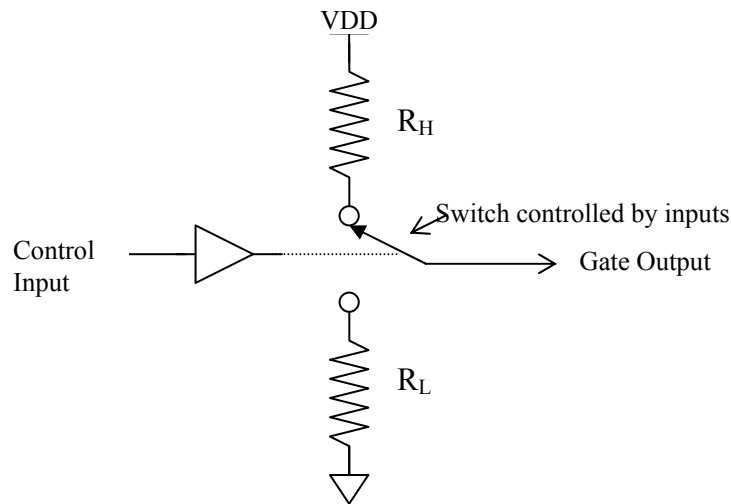

Figure 2-i: Simplified switch model for the output of a gate.
- 5) **Input DC Currents and the Effect of Unconnected Inputs:** Frequently, systems have unused gate inputs which need to be either '0' or '1' at all times. Making no connection to a pin may seem an economical way to get such a condition, but that can cause unanticipated problems. The purpose of these measurements is to determine the logic level of an unconnected input, if indeed it is determined at all, for a 74LS14 inverter and for a 74LVC04A (CMOS) inverter. The actual input current of an unconnected pin is identically zero. Begin by measuring the input current at full LOW and HIGH levels to see whether an open pin might be at either level. To do this for the 74LS14, connect a 510-ohm resistor from the input to GND and then reconnect it from input to VCC. Measure the voltage across the resistor with the multimeter. Be sure to observe the sign of the voltage (the direction of the current) as well as its value. (DO NOT MEASURE WITH A CURRENT RANGE OF THE MULTIMETER. USE A SERIES RESISTOR AS SHOWN IN FIG. 2-iii AND MEASURE THE VOLTAGE ACROSS IT. Invariably you will end up damaging the meter if you use its current range.) One can also measure the logic level associated with an open connection by measuring the *output* of a gate with no input connected and inferring the input state. For the 74LS14, also measure the voltage at its input with nothing but the voltmeter connected to that input as a rough measure of the unconnected voltage. It is sufficient for the 74LS14 to do these measurements only once.
- 7) **Power and Uncommitted Inputs with CMOS Gates:** Connect your 25K potentiometer so it can set the input voltage to the single isolated gate of the 74LVC04A hex inverter using the circuit in Figure 2-iv. Ground the input to the chain of other gates in that package. (See comments above and in Lab 6 on the wiring of this device.) Use the 3.3 volt supply for this measurement. This setup allows you to adjust the input voltage to any value from 0 to VDD and to measure the power dissipation at the same time. Use a sense resistor of 100 ohms. Rotate the pot slowly from one end to the other and record the maximum current into the gate. Make a crude plot of current, I_{DD} , versus input voltage. Estimate the input voltages that make I_{DD} approximately half of the peak value.
- 8) **Fanout Limitations:** Figure 2-i shows a simplified model of the output of an inverter based on an electrically controlled switch and two resistors. The resistors mimic the change in output voltage with output current. This model is not very good for TTL gates because their transistors do not obey Ohm's law. However, it is a reasonable approximation for CMOS gates. R_L and R_H are the on-resistances of the NMOS and PMOS output transistors respectively. The model is good enough that we will use it for you to find an upper limit on fanout from your 74ACT04 to TTL gates like the 74LS14.
Measure R_L and R_H for one section of a 74ACT04. Probably the most reliable method is to connect a resistor ($\approx 510 \Omega$) from output to ground, put the output in the logic HIGH state, and measure the potential difference between the V_{CC} and the output pins. From this you calculate R_H using Ohm's law. A similar arrangement but with the output LOW and the resistor between the output and V_{CC} will give R_L . The internal resistances shown in Figure 2-i will limit the amount of current which your chip can handle before noise margins are compromised.